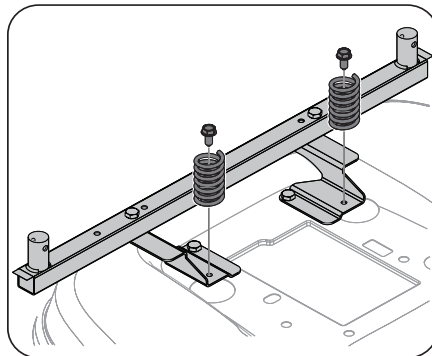

Figure 3-9
5. Reinstall the seat springs and hardware that were removed earlier in the procedure as shown in Figure 3-9.